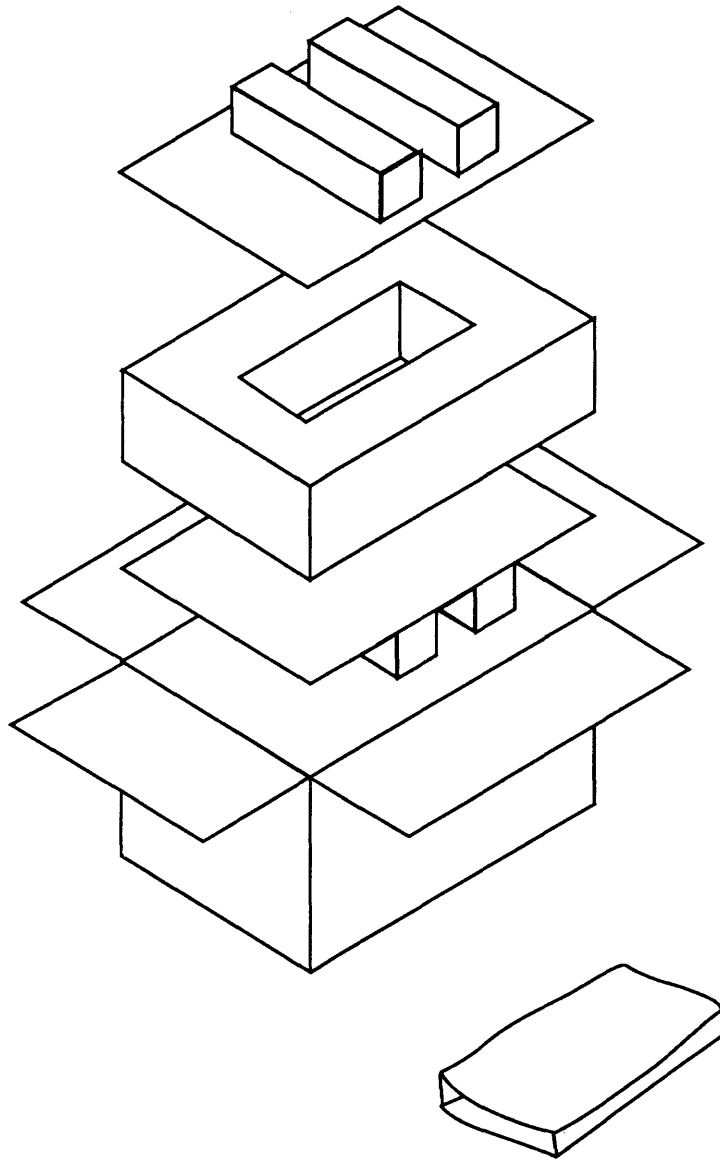

FIGURE 9
□ SERVICE PACKAGING, 800K/1.4 MB DRIVES (Figure 9)